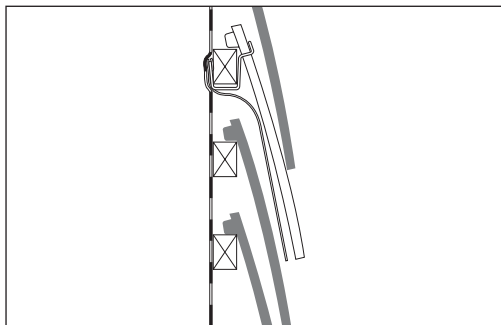

Fig 32 – Attach clip to batten
- Push up into gap so clip attaches to batten and nibs fall over top of batten (Fig 32).